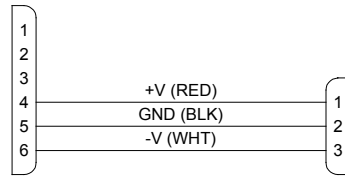

Figure 21. 3500Plus-D Power Cable with 3-Contact Plug
- The 3500Plus-D may obtain power from PESA system components having 3-contact power connectors by using a power cable assembly (Part No. 81-9065-1653-0) constructed as shown in Figure 21. If this cable must be constructed in the field, consult Drawing No. W150-0238 for assembly details. This cable may be used with the following equipment: